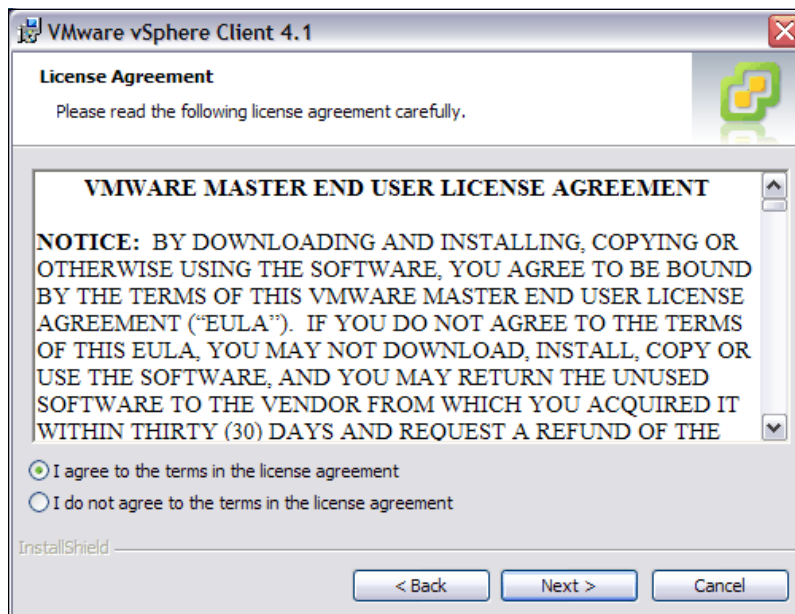

Figure 22-43 ESX Client Installation - License Agreement
7. In the License Agreement window (Figure 22-43), select **I agree** and click **Next**.